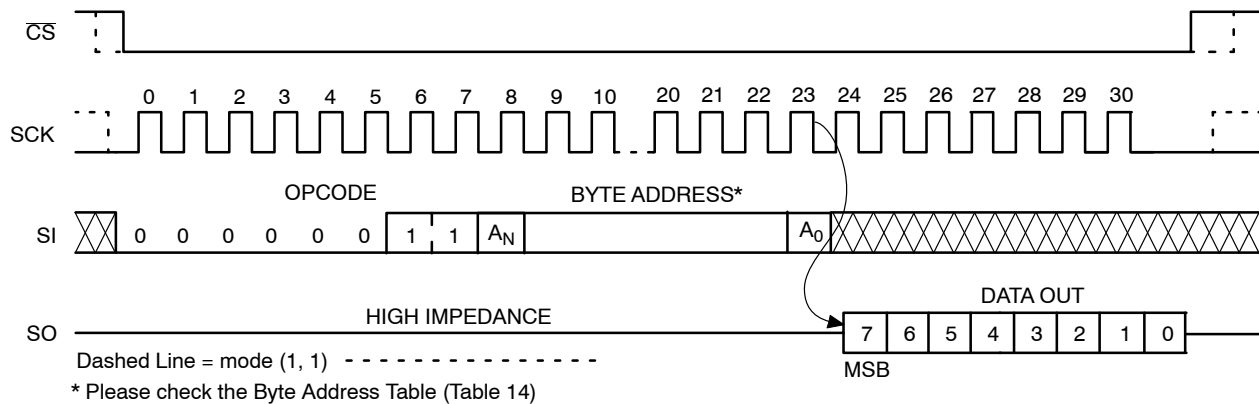

Figure 9. READ Timing
After receiving the last address bit, the CAT25128 will respond by shifting out data on the SO pin (as shown in Figure 9). Sequentially stored data can be read out by simply continuing to run the clock. The internal address pointer is automatically incremented to the next higher address as data is shifted out. After reaching the highest memory address, the address counter “rolls over” to the lowest memory address, and the read cycle can be continued indefinitely. The read operation is terminated by taking \overline{CS} high.
Reading the additional 64-byte Identification Page (IP) is achieved using the same Read command sequence as used for Read from main memory array (Figure 9). **The IPL bit from the Status Register must be set (IPL = 1) before attempting to read from the IP.** The [A5:A0] are the address significant bits that point to the data byte shifted out on the SO pin. If the \overline{CS} continues to be held low, the internal